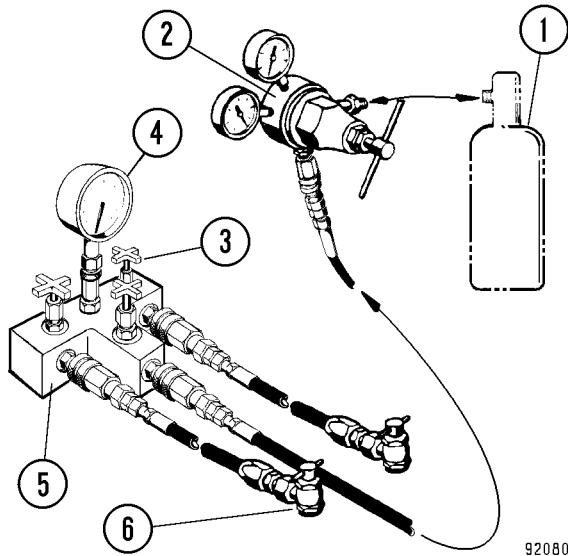

FIGURE 3-23. NITROGEN CHARGING KIT
3. Close all shutoff valves on manifold (5, Figure 3-23).
5. Turn the "T" handle all the way out (counter-clockwise) on charging valve adapter (6).